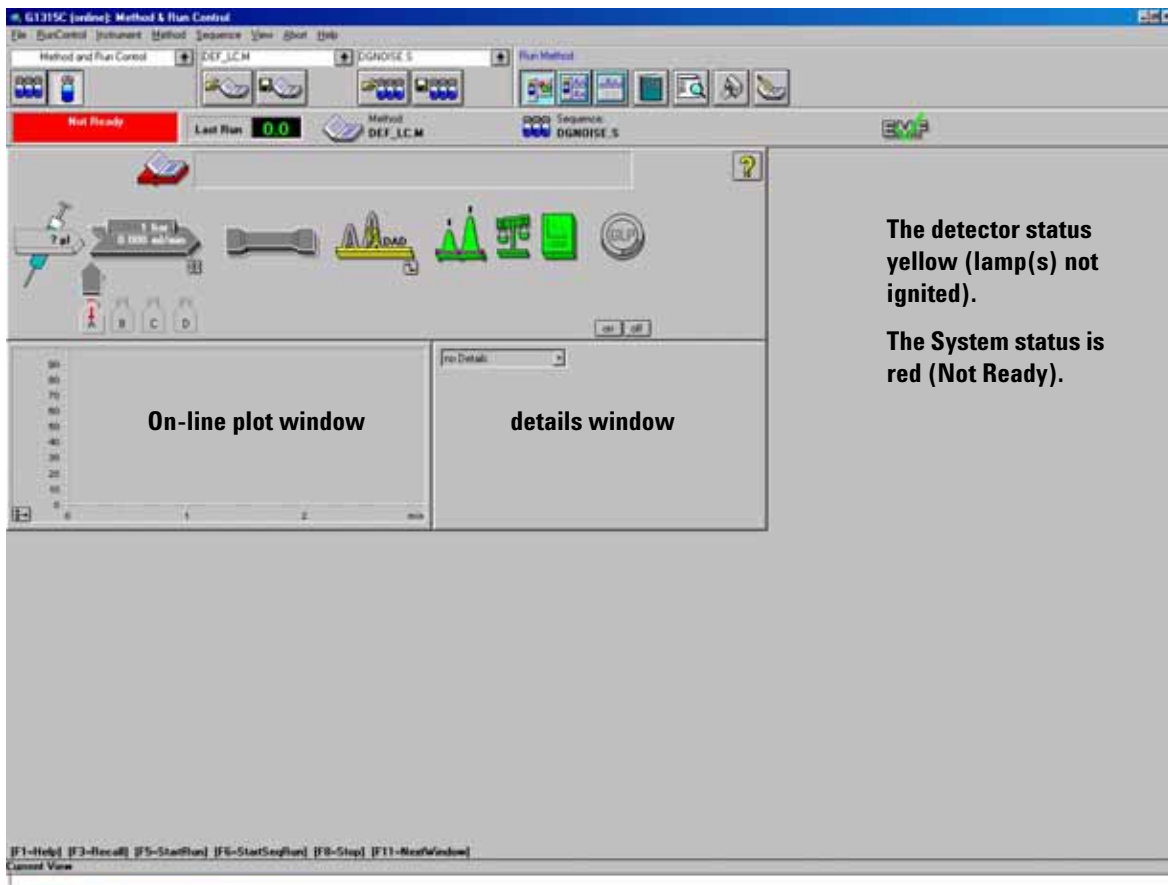

Figure 32 Initial ChemStation screen
- 3 Start the Agilent ChemStation software. If the pump, autosampler and detector are found, the ChemStation screen should look like shown in Figure 32.